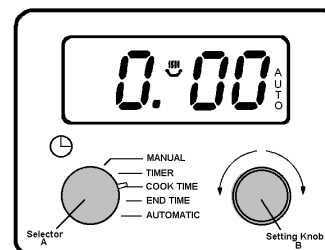

Fig.12
- viii) To cancel the signal, turn setting knob (B). The display will show 0.00 when the selector (A) is turned to 'Cook Time'. Fig.12. When the selector (A) is set at 'Automatic' the display will show time of day and the 'AUTO' symbol will flash.
- ix) To return the oven to manual, turn the selector (A) to 'Manual'.